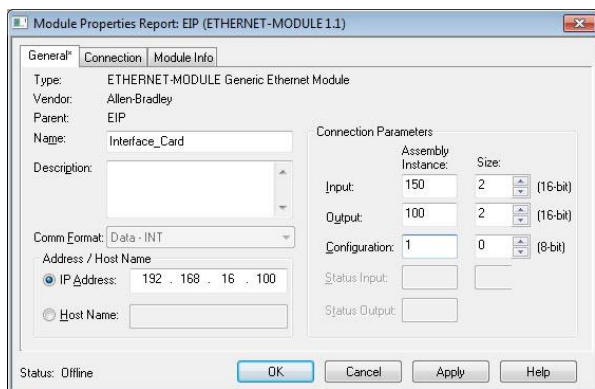

Figure 38: Interface Card Module Properties
- 4) The module properties dialog box will open (refer to Figure 38). Enter a Name which will allow easy identification of the inverter on the network (the tags created in RSLogix 5000 will be derived from this Name). Because all inverter data is stored as 16-bit function codes, change the "Comm Format" selection to "Data-INT". Enter the IP address of the targeted interface card.